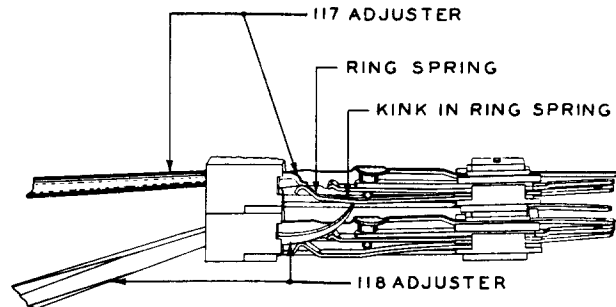

Fig. 3 - Method of Adjusting Ring Spring Down
(c) If the butting condition is caused by the ring spring, adjust it downward as follows. The difference between the butting condition on the ring spring and the butting condition on the tip spring can be noted from the position of the 114B gauge in the jack at the time the butting occurs. Insert the 118 adjuster as far as possible into the jack beneath the jack being adjusted so that it rests firmly against the underside of the spring to be adjusted. While holding the 118 adjuster in this position, insert the 117 adjuster into the jack to be adjusted applying it at the crimp of the spring as shown in Fig. 3. Depress the ring spring until the butting condition is eliminated. In the case of jacks in strips mounted at the bottom of the multiple or above strips of lamps, it will not be possible to use the 118 adjuster. Adjust the ring spring down using the 117 adjuster. When the 117 adjuster is inserted the proper distance into the jack, the scoring on the side of the adjuster will be approximately  $\frac{3}{16}$  inch from the face of the jack strip. In adjusting the ring spring take care not to introduce a ring cutout. If a check indicates a ring cutout, adjust the ring spring up slightly with the 117 adjuster applied at the crimp of the spring. After making this adjustment, recheck for a butting condition.
(6) **All Jacks Except 229 Type:** Insert the 115B gauge into the jack with a rotary motion and lift it sufficiently to take up the play in the jack sleeve. If the tip and ring springs of the jack cross as indicated by the jack test circuit, remove the jack strip from the multiple and observe the shape of the ring spring. If the ring spring does not have a definite kink in it across the spring approximately two thirds the distance from the insulators to the crimped end of the springs as shown in Fig. 3, replace the jack strip.